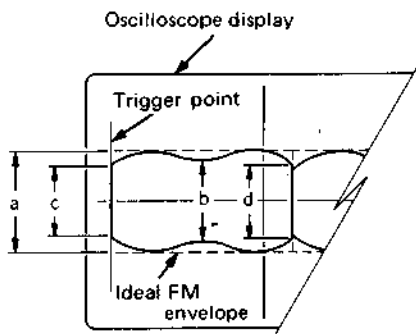

Fig. 1-6-1 FM envelope
1. Push the TRACKING +/- buttons to obtain the maximum FM envelope output corresponding to (a) level in Fig. 1-6-1. Observe the FM envelope, read the maximum level (a) and the minimum levels (b), (c) and (d). Confirm that:
1. Supply a video or TV signal (monochrome is preferable). Use a spare tape, record and play back. Confirm that the play-back FM signal conforms to the parameters indicated in Fig. 1-6-1. Check for SP mode.